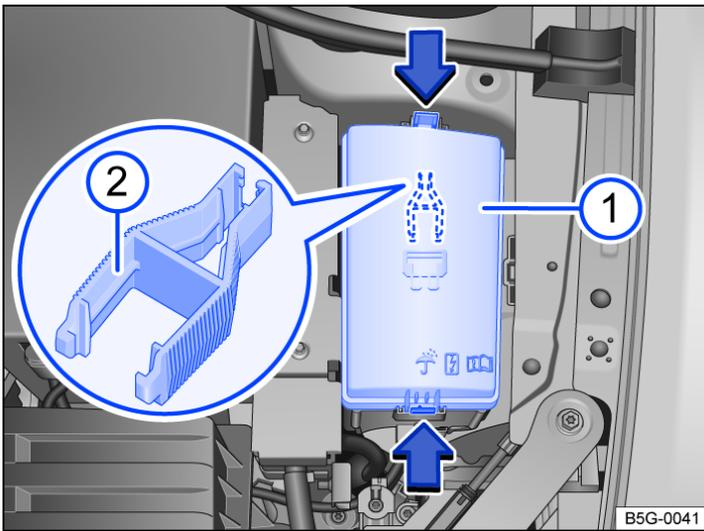

Fig. 1 In the engine compartment: cover (1) of the fuse box including plastic pliers (2).
- Press the locking button in the direction of the arrow *→ Fig. 1* (arrows) in order to unlock the cover of the fuse box *→ Fig. 1* (1).